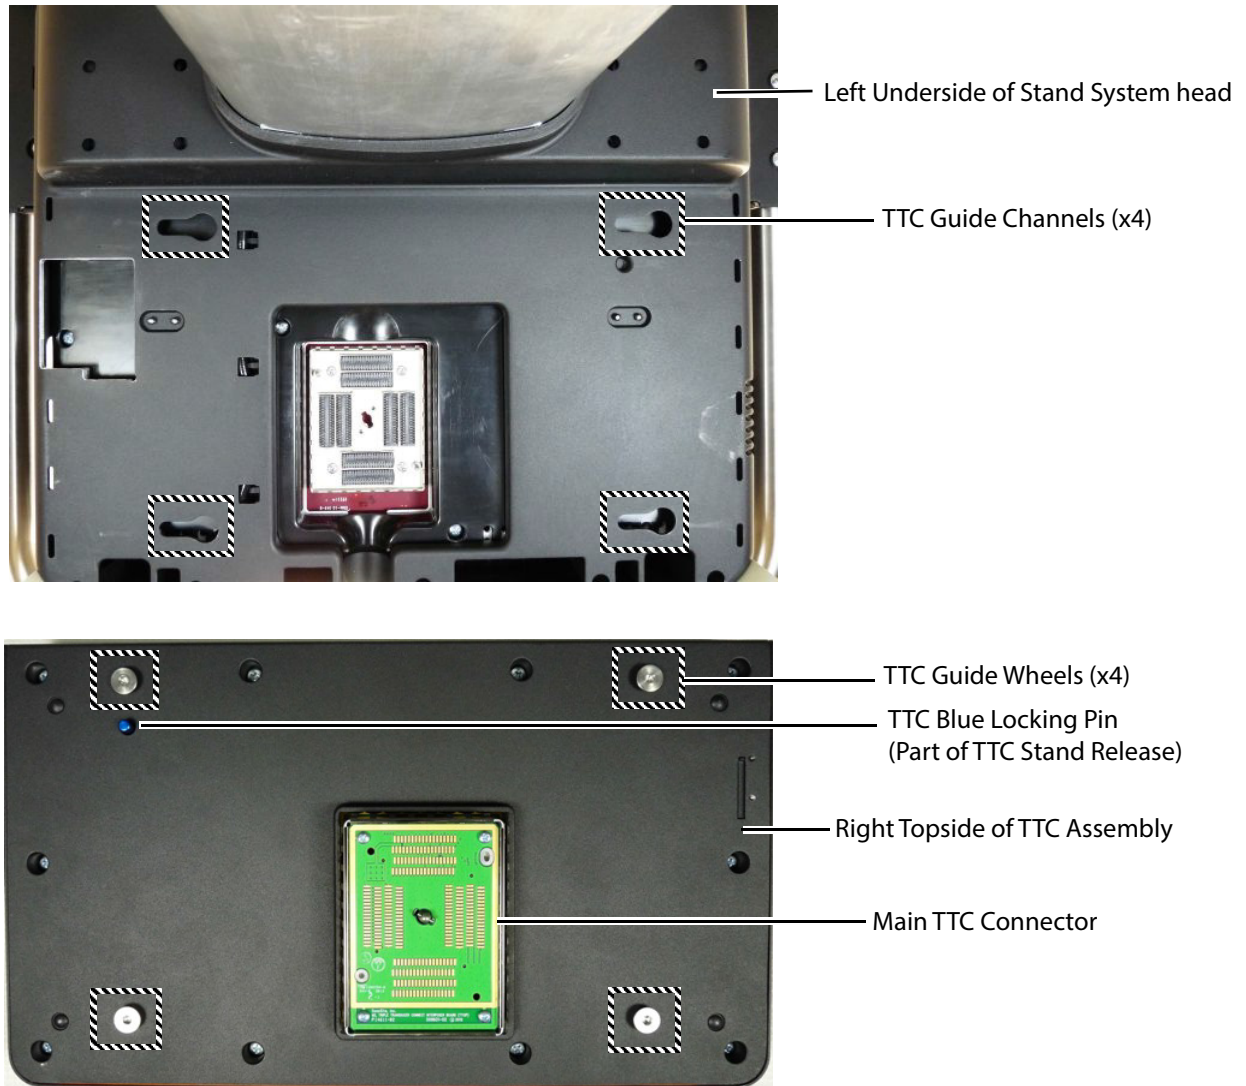

Figure 6.20 TTC Mounting Channels
- 2 Position the TTC approximately 3/4" farther to the left than the left stand edge to allow the TTC stainless steel guide wheels to enter the stand TTC guide channels. Please refer to Figure 6.20 on page 49 for the location for these attachment points.